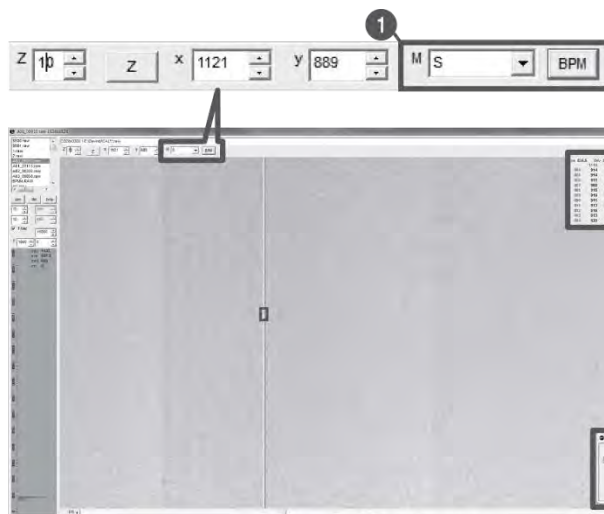

Figure 1. View Image
1	At Figure 1, choose S from the list of M (❶) and click "BPM". Check if BPMM window is popped up as Figure 3.